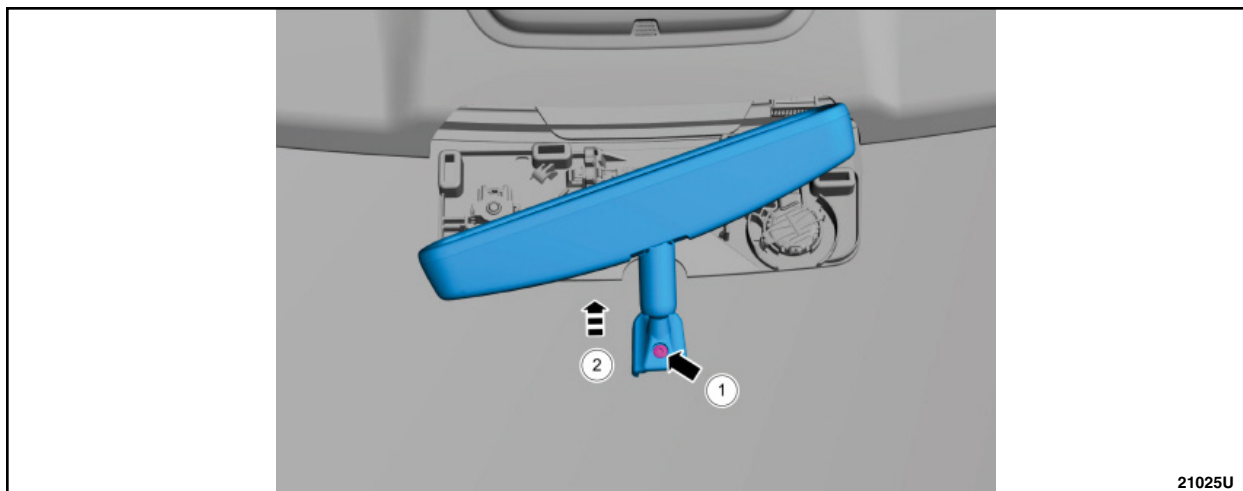

FIGURE 12
12. Remove the interior mirror. See Figure 12.